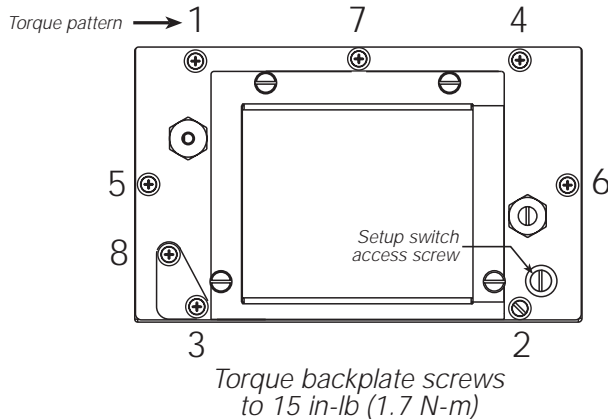

Figure 2-3. IQ plus 390-DC Enclosure Backplate
- One 8-32NC x 7/16 fillister head screw (PN 30623). This screw occupies the hole below the setup switch access screw on the indicator backplate (see Figure 2-3 on page 6).
Once cabling is complete, position the backplate over the enclosure, reconnect battery cable, and reinstall the backplate screws. Use the torque pattern shown in Figure 2-3 to prevent distorting the backplate gasket. Torque screws to 15 in-lb (1.7 N-m).
To replace the CPU board, reverse the above procedure. Be sure to reinstall cable ties to secure all cables inside the indicator enclosure. Replace backplate and torque screws as shown in Figure 2-3.